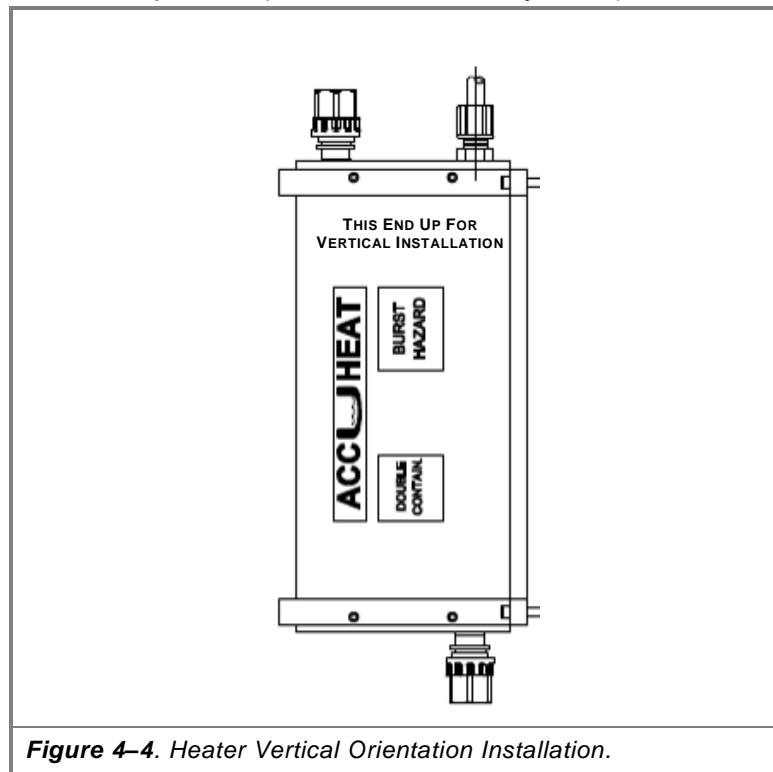

Figure 4-4. Heater Vertical Orientation Installation.
1. Using eight (4) ¼-inch diameter (6mm) screws (not provided), pre-drill (tapping as necessary) the mounting platform. Make sure that the Vertical installation label is facing up (Figure 4-4). Mount an Accuheat (Model 6000) to the platform in a level position ($\pm 1^\circ$ at both “x” and “y” axes).